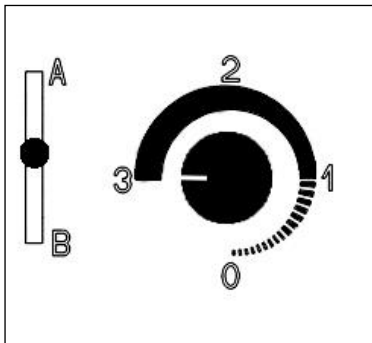
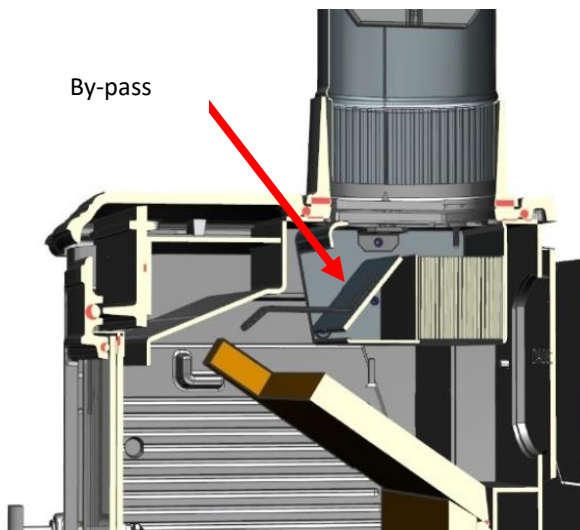

Fig. 11. Lighting and reloading
Fig. 18
1. Be sure the ash drawer is closed and secured. Slide the Burn Type Lever to the centre position (See the setting on fig.11).
2. Open the Burn Rate Knob all the way by turning to the left. This knob may be turned manually or by pressing "ON/HI" on the remote control (optional). (See the setting on fig. 11). If your stove has the Catalytic Hybrid Woodbox System, open the bypass placed in the top inside the stove (Fig. 18).